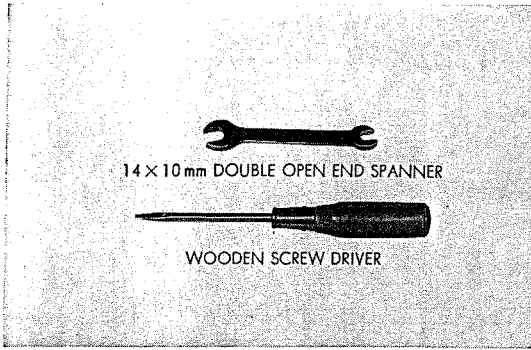

Fig. 6.25 Tools required for adjustment of clutch
a. Tools required for adjustment of clutch. (Refer to Fig. 6.25)